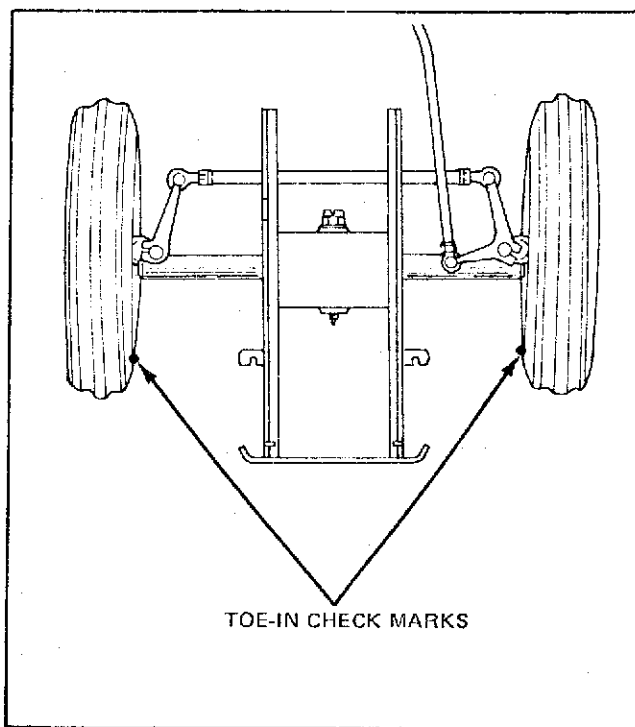

Figure 53 — Checking Toe-In
1. With the front wheels in the straight-ahead position, mark the front of the wheels (not the tires) at wheel hub height, Figure 53. Determine the straight-ahead position by turning the steering wheel from lock to lock and then halfway back.